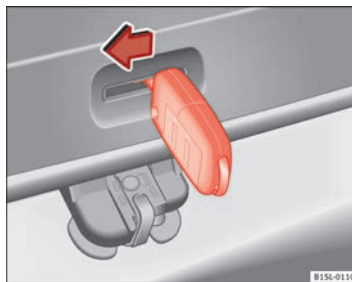

Fig. 135 From the luggage compartment: Manually unlocking the rear lid
- Insert the key shaft into the rear lid opening ⇒ Fig. 135 and press the release lever in the direction of the arrow to unlock the rear lid. ■